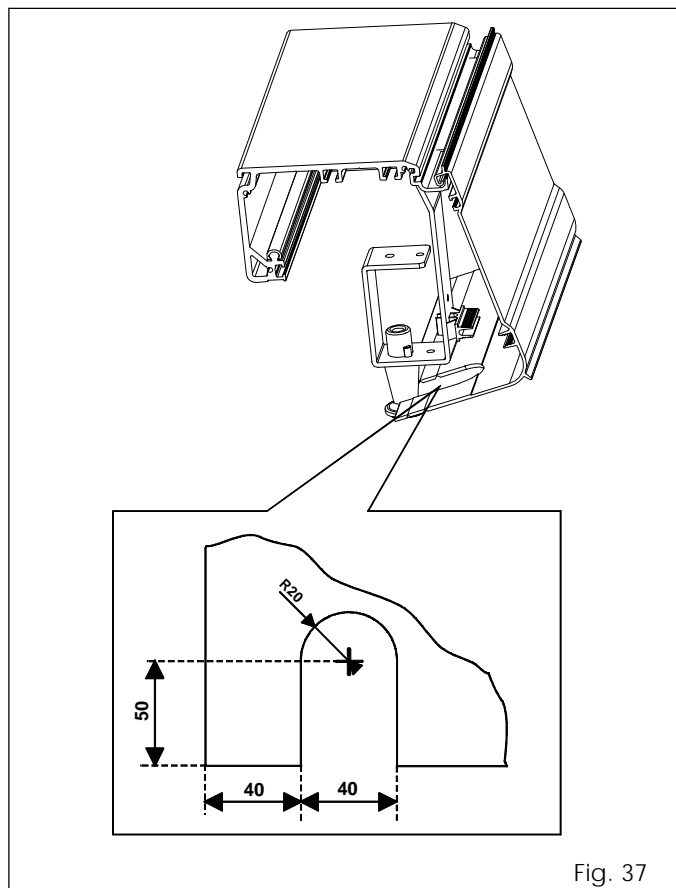

Fig. 37
- N.B.: To ensure correct closure of the housing, if using the internal release, shape the housing to the dimensions in fig. 37.